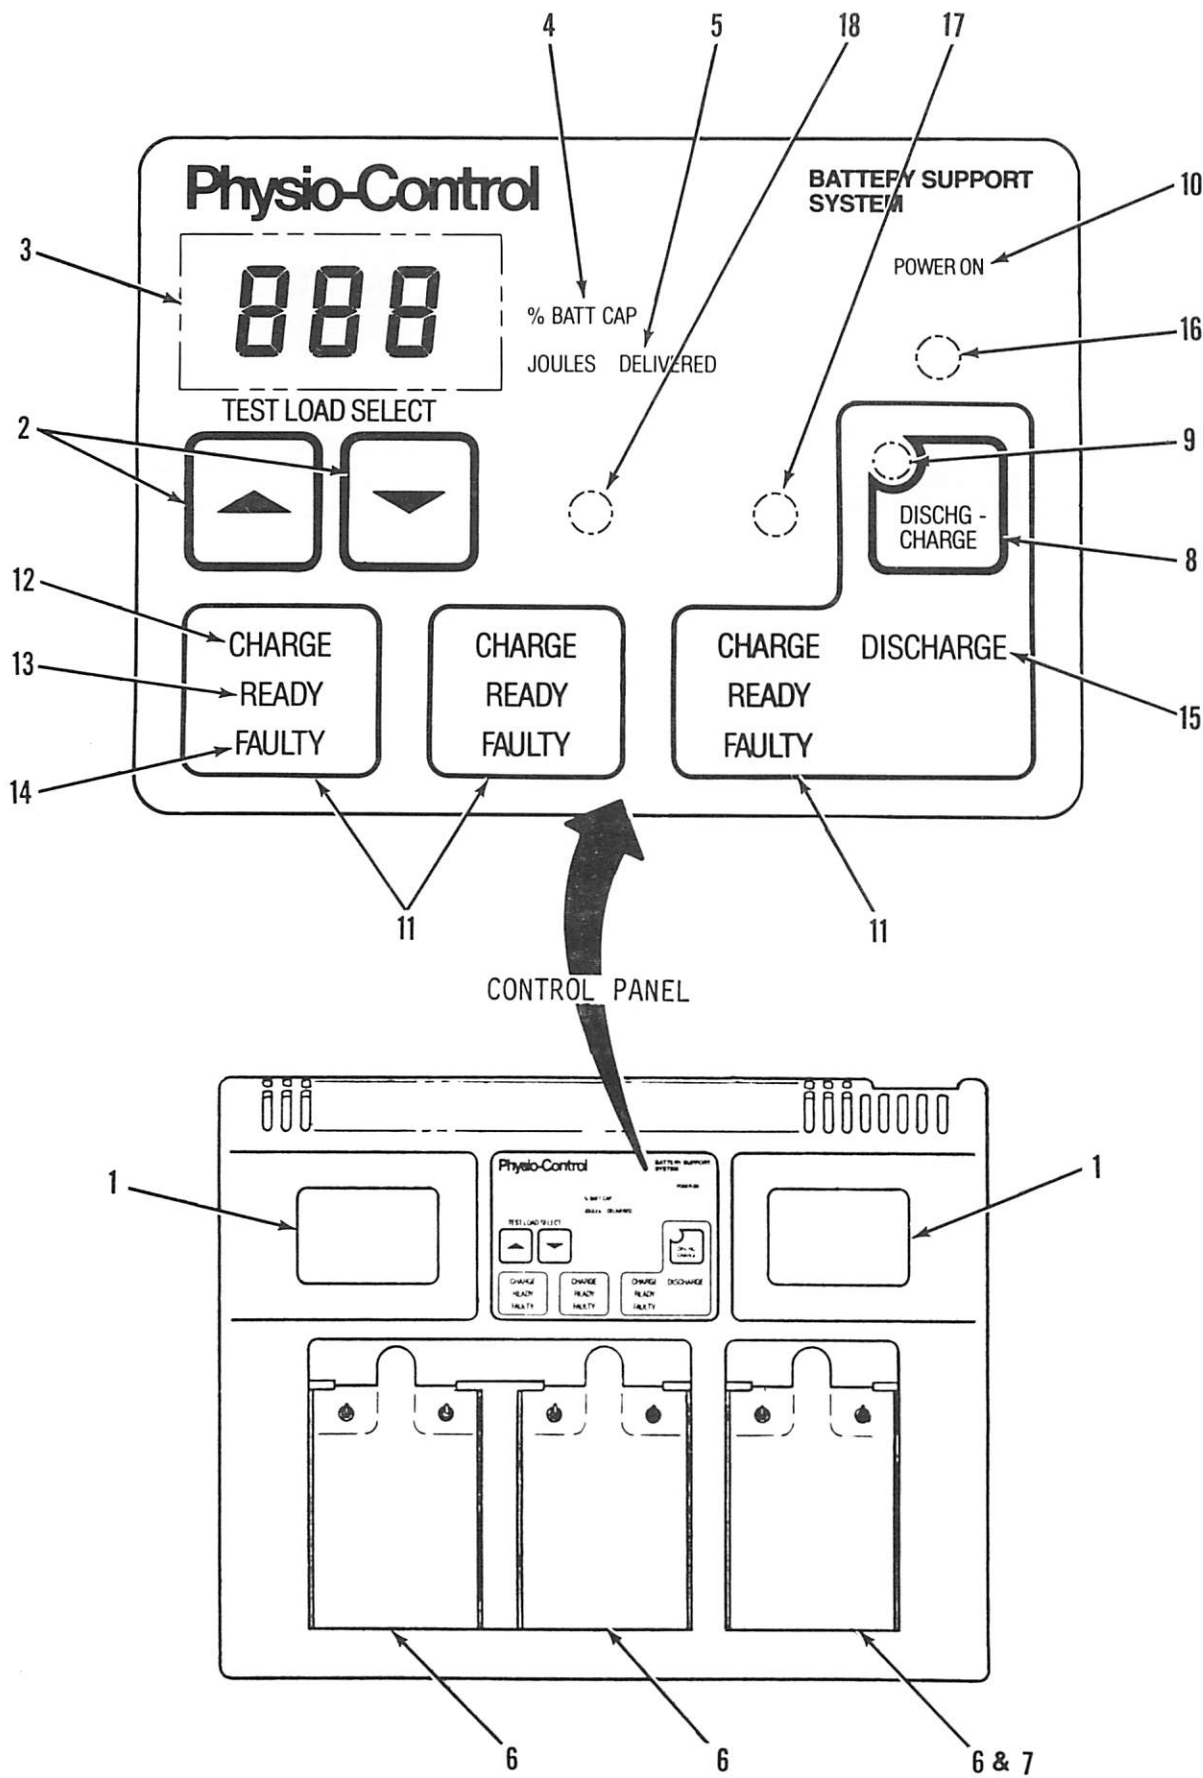

FIGURE 2-1. BATTERY SUPPORT SYSTEM CONTROLS AND INDICATORS
- A. The controls and indicators on the Battery Support System are shown in Figure 2-1. Each item is keyed on the figure to a corresponding listing in Table 2-1. The table lists the nomenclature and briefly describes the function of each item.
5. Verify that the CHARGE indicator lights (Figure 2-1).